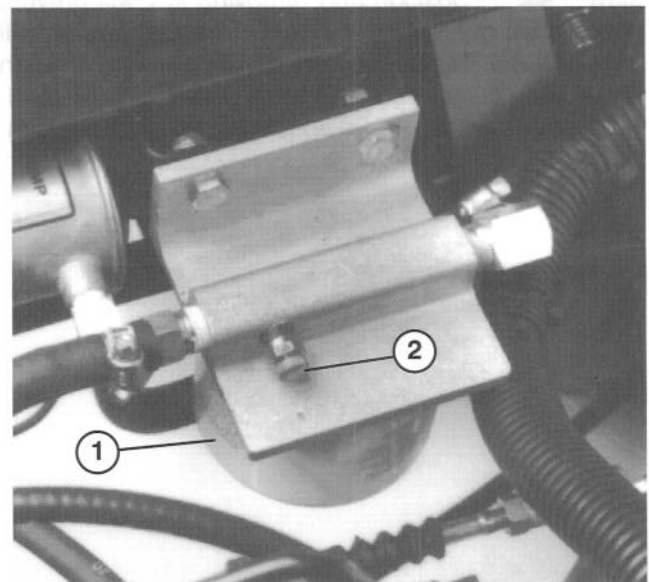

Figure 21
1. Loosen air bleed screw on top of fuel filter/water separator (Fig. 21).